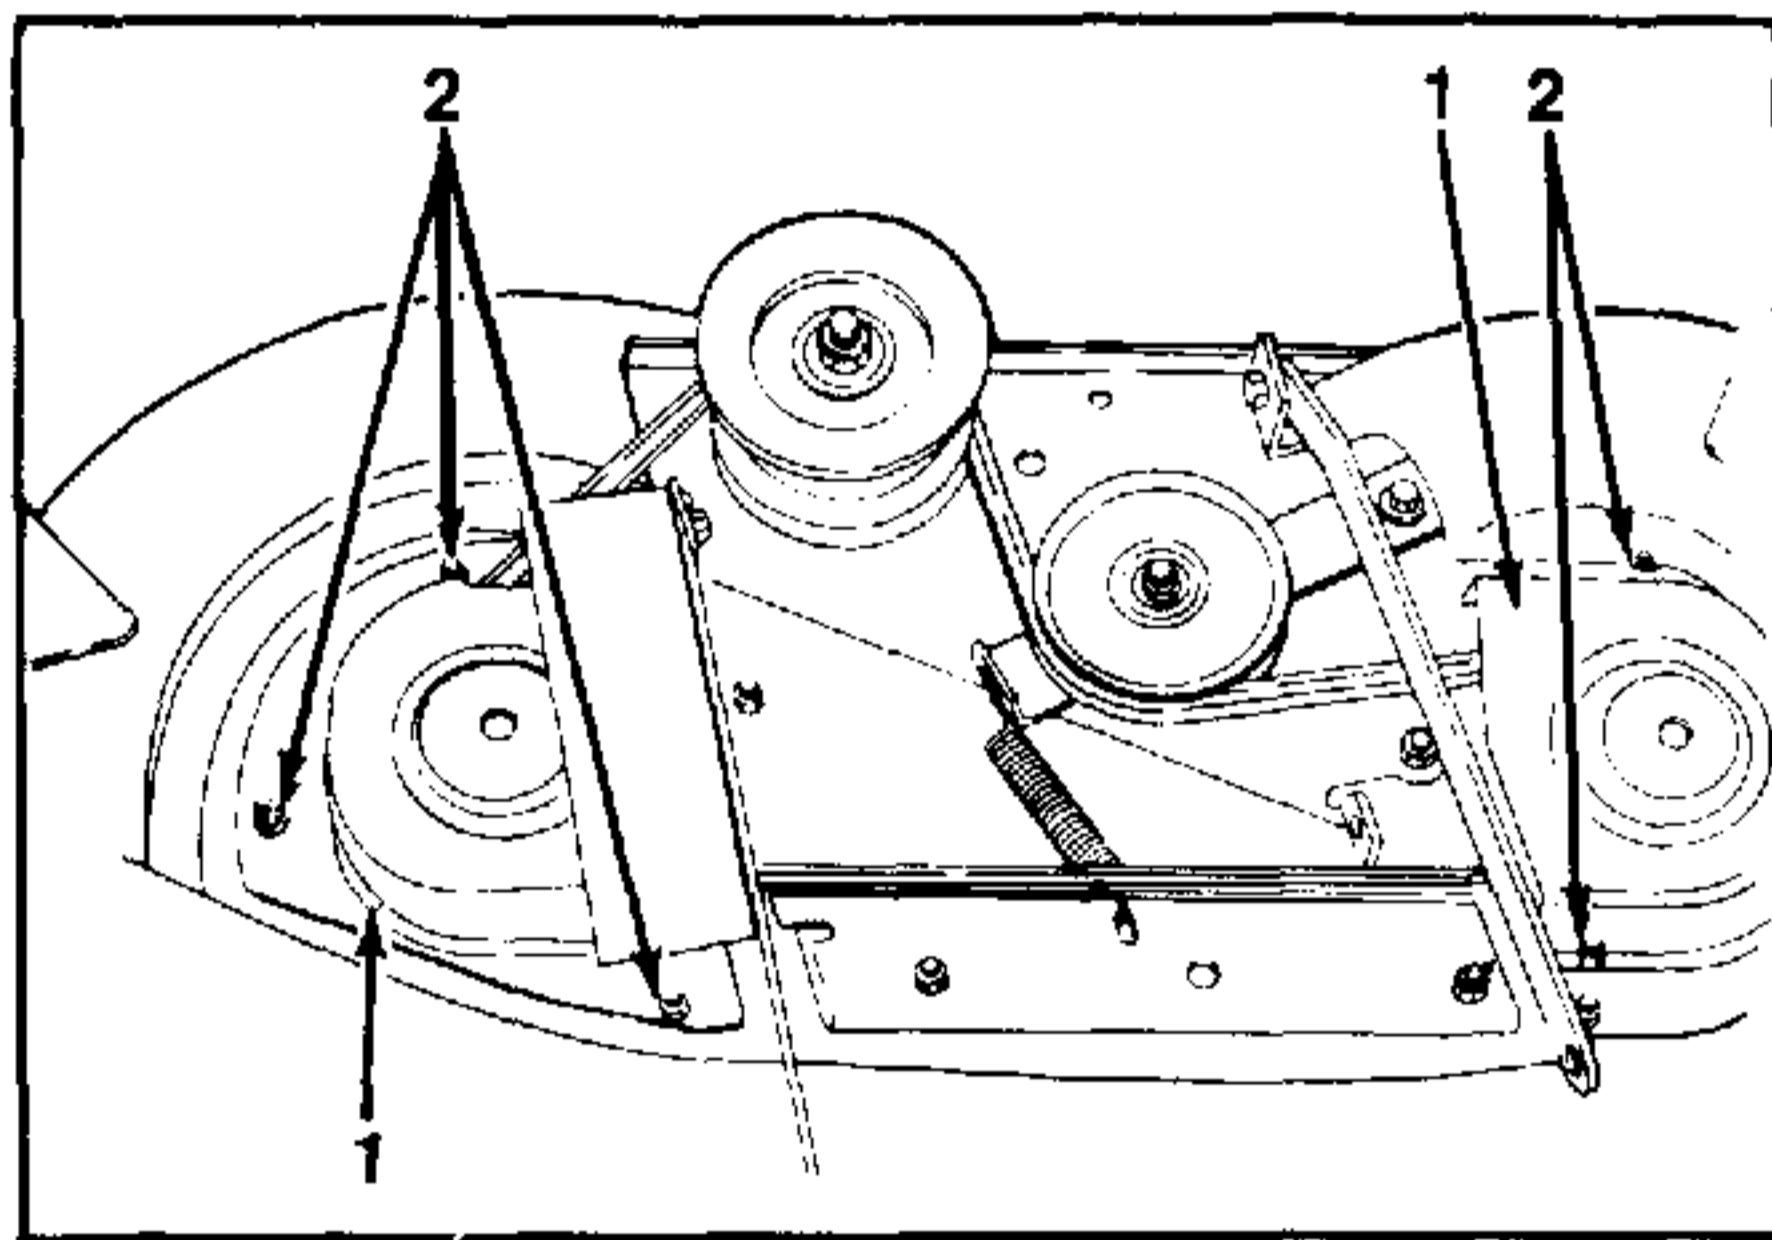

FIGURE 9.
Replace spindle drive belt as follows: (See figures 9, 10 and 11.)
5. Install a new belt. Refer to figures 9, 10 and 11 for proper placement of belt. Push against idler pulley to aid the installation.